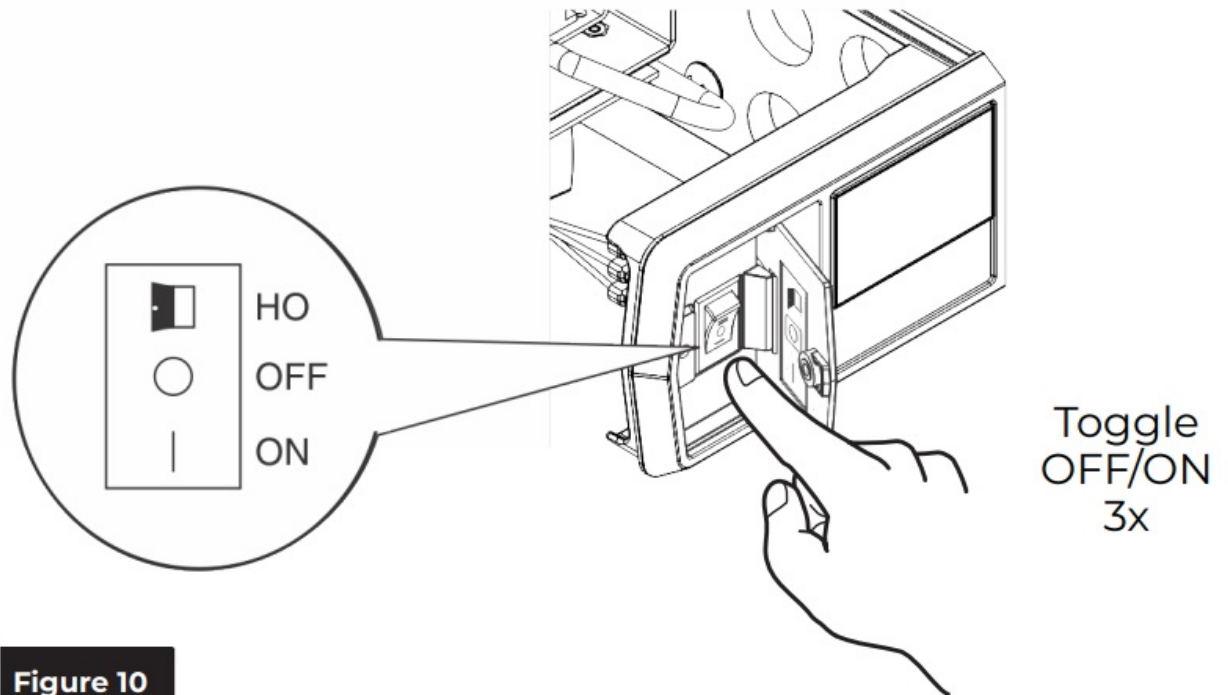

Figure 10
1. Turn on Operator Wi-Fi by toggling 3 Position switch on end cap 3 times. (Figure 10)